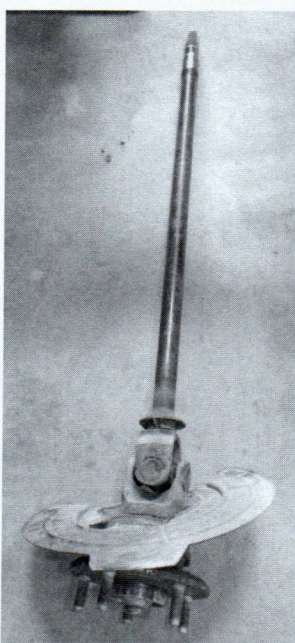

Figure 6. Passenger (Right) Side Axle and Unit Bearing Assembly
7. With the wheel bearing bolts removed, remove the wheel bearing unit assembly and the axle shaft as one piece. Carefully knock the assembly loose from the knuckle with a soft mallet. Older jeeps may require some penetrating lube like PB Blaster or a large pry bar to get the unit bearing out of the knuckle. Carefully pull the axle shaft out and through the knuckle. Be careful not to damage the brake backing plates. Use care when pulling the ABS sensor through the hole in the brake backing plate. The complete assembly is heavy. Be careful not to damage the splines on the end of the axle shaft. See Figure 6.